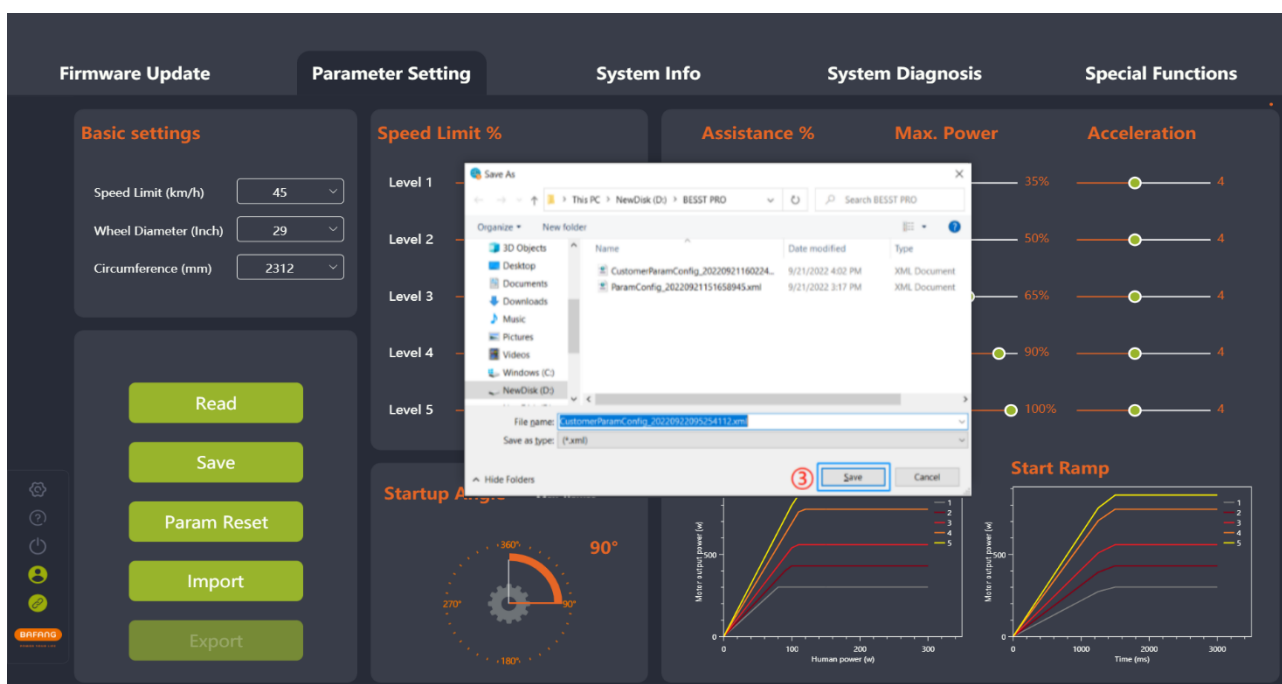

Fig. 5-20 Export
- (3) Export the configuration information of the parameter interface and the controller hardware version (for import verification) to a file and save it locally. The path can be chosen independently and the file name can be edited, for example, CustomerParamConfig_20220922095254112.xml (Fig.5-20).